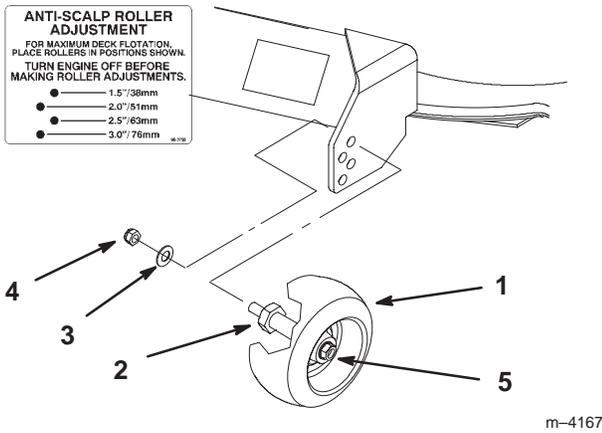

Figure 24
2. After adjusting height-of-cut remove flange nut and spring disk while holding stud with wrench (Fig. 24).
Note: Do not remove the wheel nut and washer (Fig. 24).
3. Select hole so gage wheel is positioned to the nearest corresponding height-of-cut desired (Fig. 24).
4. Reinstall the flange nut and spring disk (Fig. 24).